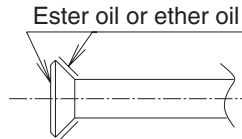

Fig. 12
- When connecting the flare nut, coat the flare section (both inside and outside) with ester oil or ether oil, rotate three or four times first, then screw in. **(Refer to Fig. 12)**